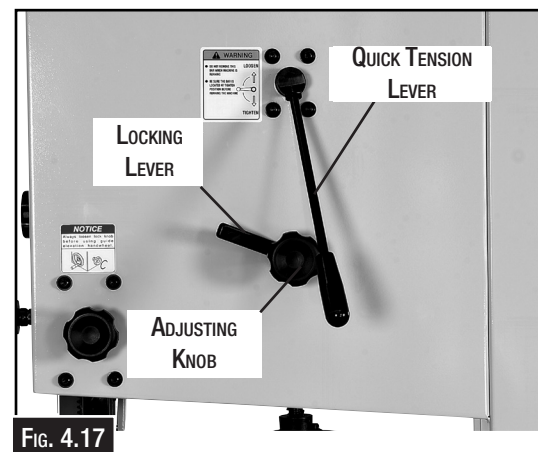

FIG. 4.17
6. Loosen the lock lever (Fig. 4.17) so that the blade tracking knob can rotate.
7. Manually rotate the upper wheel, taking care not to touch the blade. At the same time turn the adjusting knob (Fig. 4.17) clockwise or anticlockwise until the saw blade tracks centre on the rubber tyre.